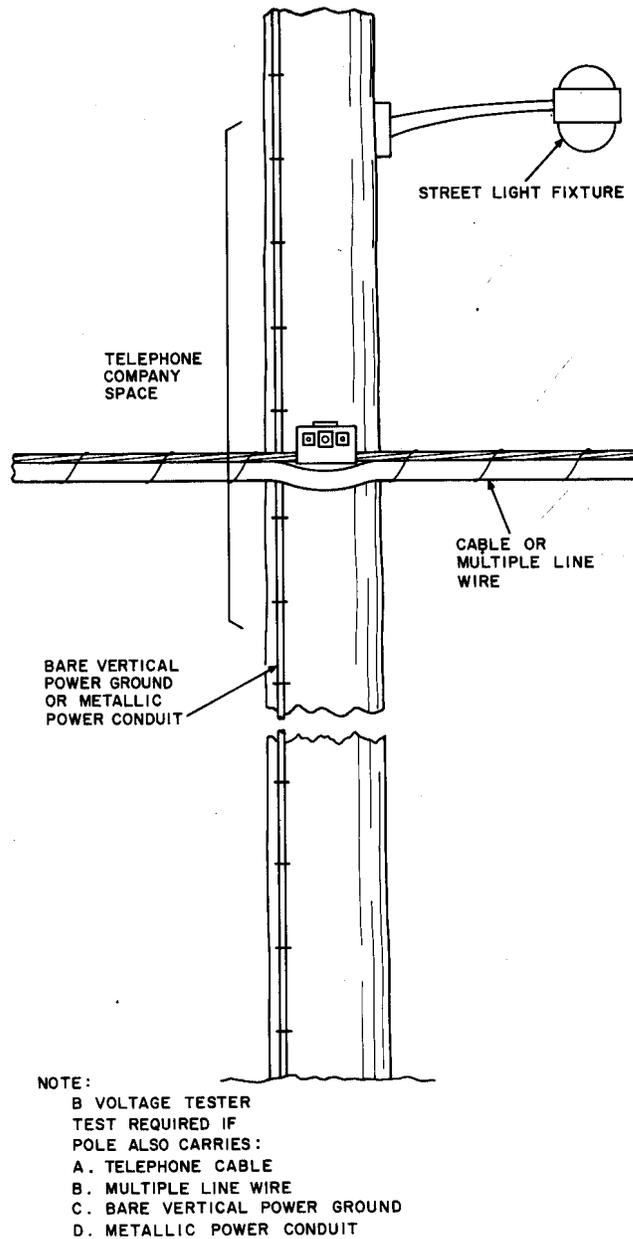

Fig. 6—Street Light Fixture—Conditions Requiring Use of B Voltage Tester
3.04 Where a street light fixture is present, make a voltage test in accordance with Part 5 if the pole also carries multiple line wire, telephone cable, or a bare vertical power ground wire (Fig. 6), except as covered in 3.06.